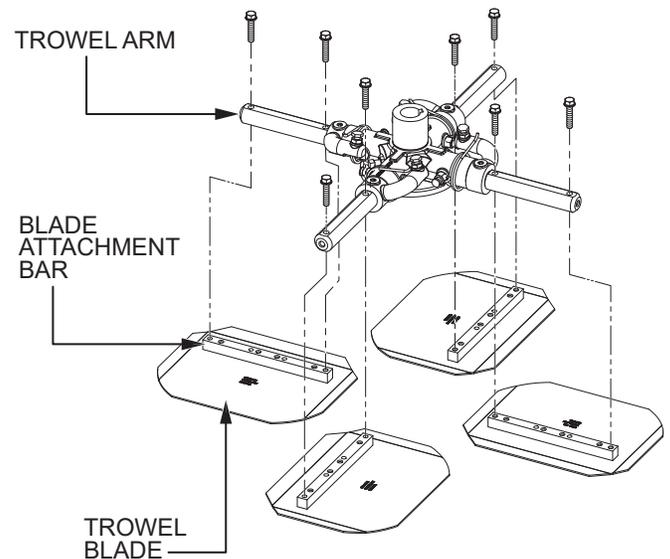

Figure 53. Blade Removal
2. Remove the bolts from each of the trowel arms, then remove the blades as shown in Figure 53.